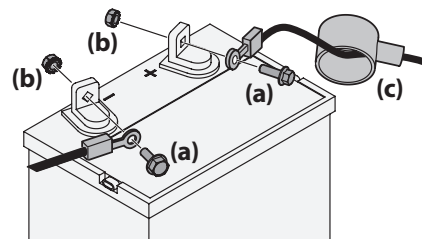

Figure 8
1. Remove the plastic cover, if present, from the positive battery terminal and attach the red cable to the positive battery terminal (+) with the bolt (a) and hex nut (b). See Figure 8.
2. Remove the plastic cover, if present, from the negative battery terminal and attach the black cable to the negative battery terminal (-) with the bolt (a) and hex nut (b). See Figure 8.
3. Position the red rubber boot (c) over the positive battery terminal to help protect it from corrosion. See Figure 8.